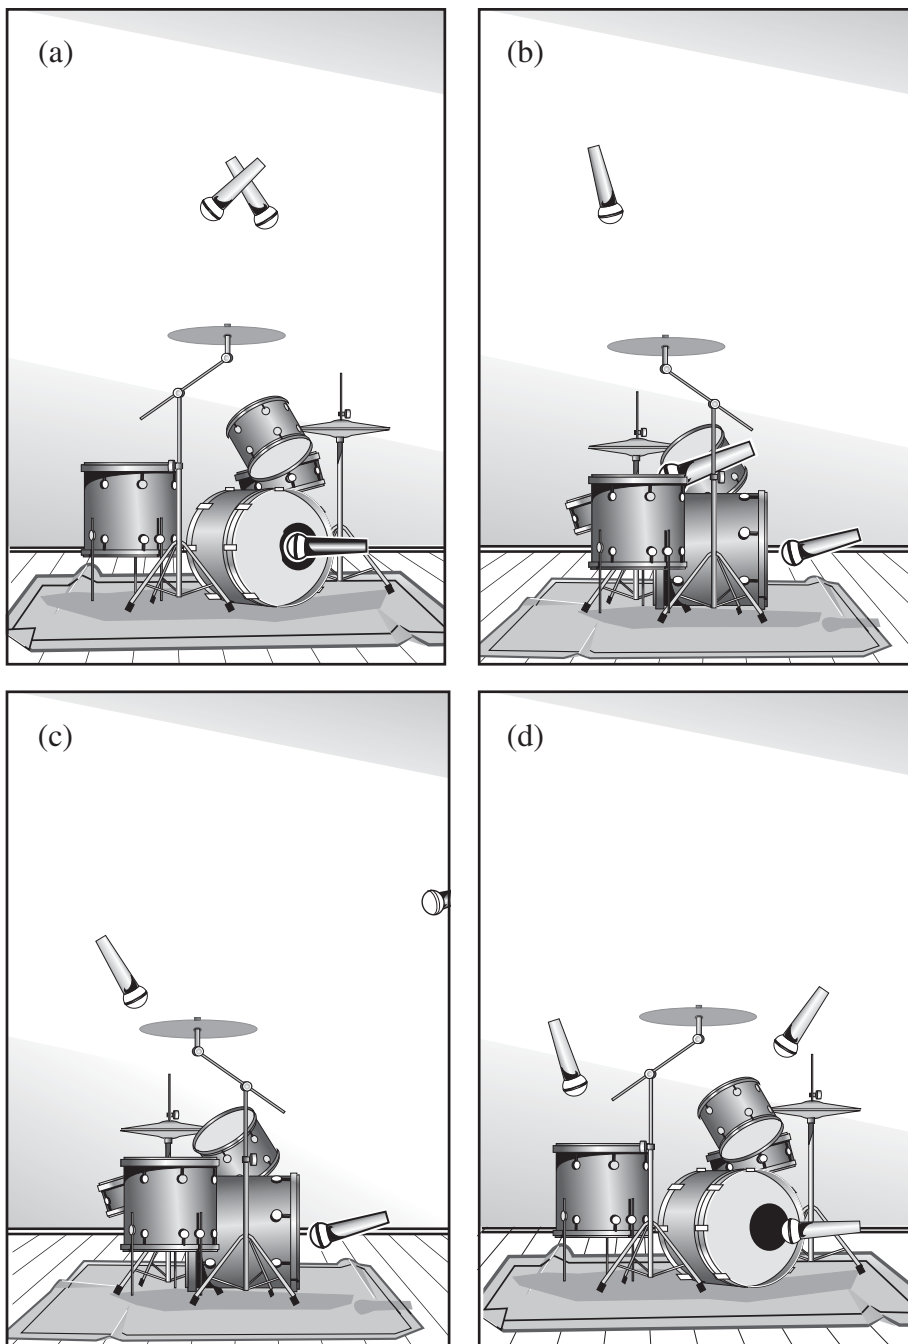

FIGURE 4.6
Great for jazz, as the overheads pick up exactly what the player is trying to translate – often lost when the drums are individually miked. Figure 4.6 shows three methods of recording drums with three microphones.
- **Use four microphones on the drums.** Commonly, this would be the same as the three-microphone setup in Figure 4.6 \(b\) with the addition of another overhead microphone to record the drums in stereo.